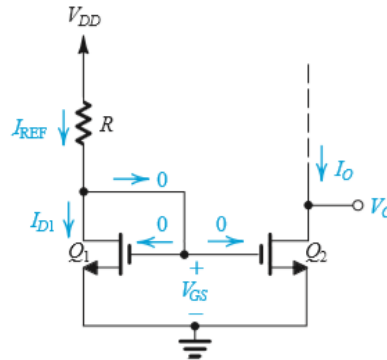

Figure 4: Current-mirror circuit
The circuit shown in Figure 4 is called current-mirror circuit.
1. For the current mirror circuit shown in Figure 4, let Q1 be the MOS transistor modelled in previous task. The reference current has already been established i.e. 1mA.